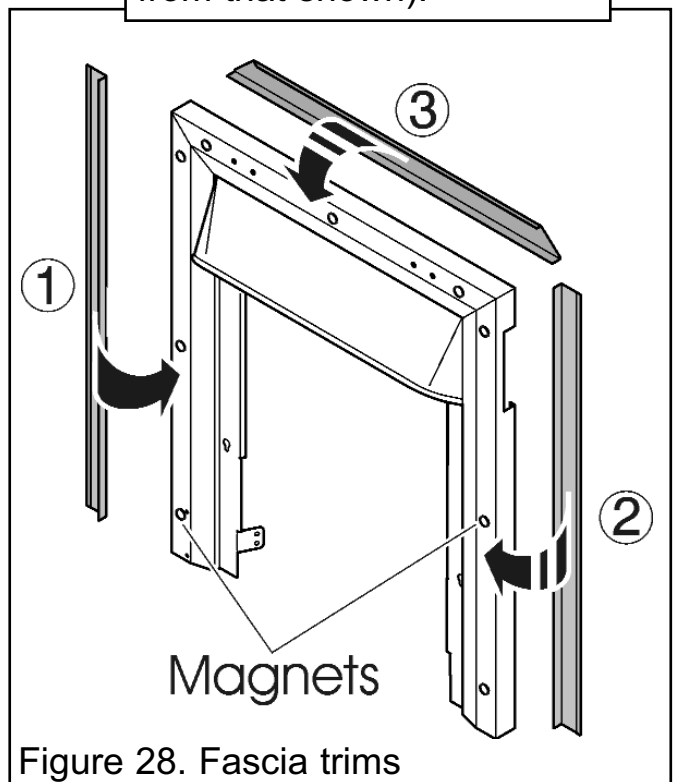

Figure 28. Fascia trims
2. The front face of the hotbox has 9 magnets that may have moved in transit. Position the magnets as in figure 28.
4. The fascia is supplied with three decorative trims. Where fitted, remove any protective film from the surface of the trims. Locate the trims as in figure 28. Locate the side trims first.